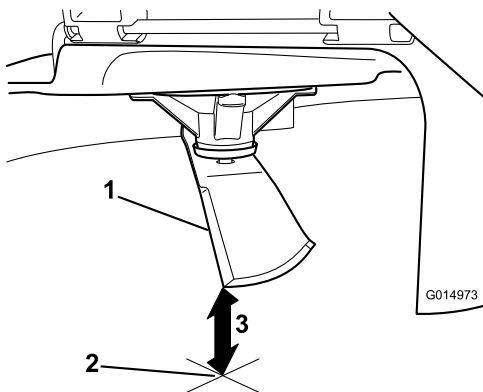

Figure 90
3. Measure from the tip of the blade to the flat surface (Figure 90).